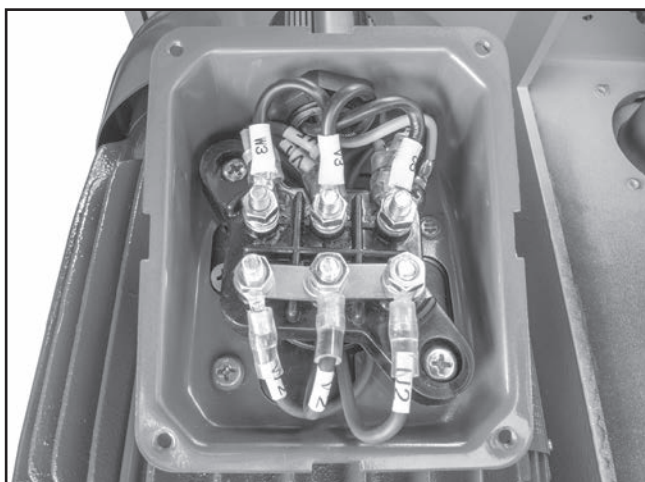

Figure 14. Feed motor wiring (220V).
13. Open feed motor junction box, as shown in **Figure 14**.